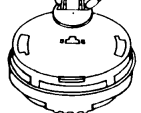

FIGURE 3.
5. Plug the A.C. QUICK CONNECTOR into the back of the alarm (see Figure 3), making sure that the locks on the connector snap into place. Then push the excess wire back into the electrical box through the hole in the center of the trim ring.
To disconnect the A.C. power harness, squeeze the locking arms on the sides of the Quick Connector while pulling the connector away from the bottom of the alarm (see Section 3, Figure 3).